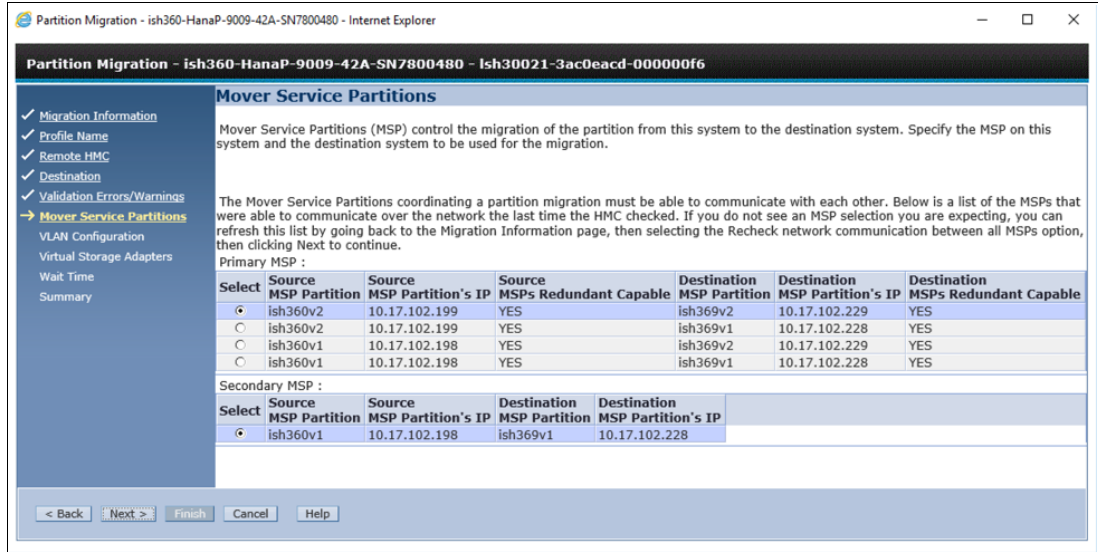

Figure 3-20 Mover Service Partitions window
- The Mover Service Partitions step enables the definition of MSPs. MSPs are VIOS installations on Power Systems servers that perform the actual work during the migration. One MSP must be selected on the source system and one on the destination system, as shown in Figure 3-20. By default, the HMC preselects one VIOS, but it can be changed in this step.